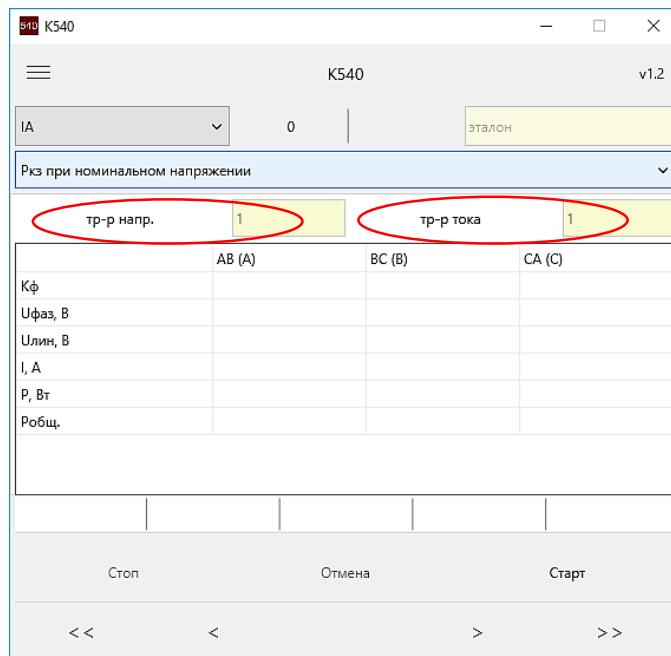

Figure 6.13
6.1.5.2 In Line 1, Figure 5a, select the mode “Psc at rated voltage”. In fields “voltage transformer” and “current transformer” (start screen of this mode, see Fig. 6.13), set transformation ratios of applied current/voltage transformers.